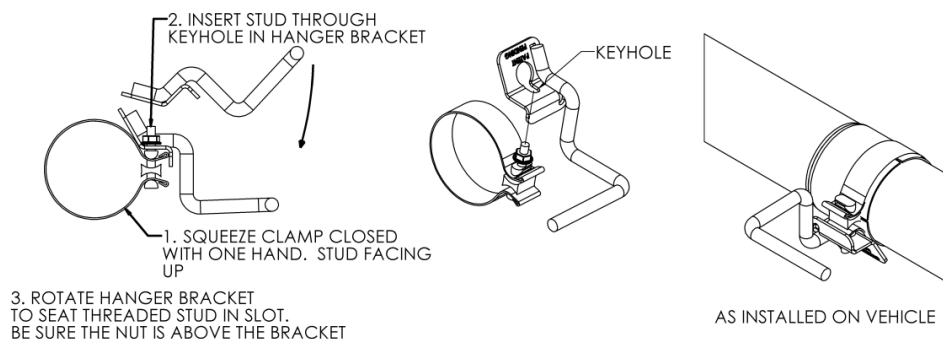

Figure 2
1. Install the **Extension Pipe** over the catalytic converter. **See Figure 2.** The **Extension Pipe** provided is pre-cut for the crew cab long bed configuration. All other configurations will require this pipe to be cut.